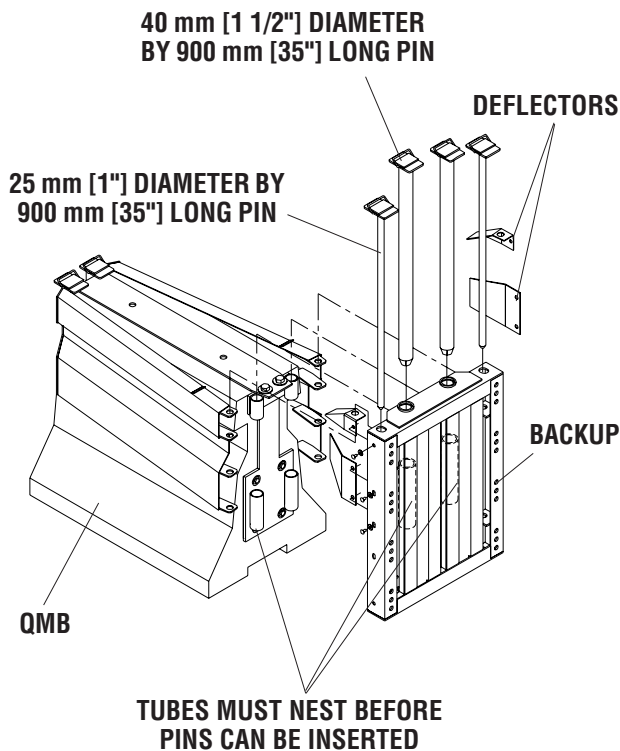
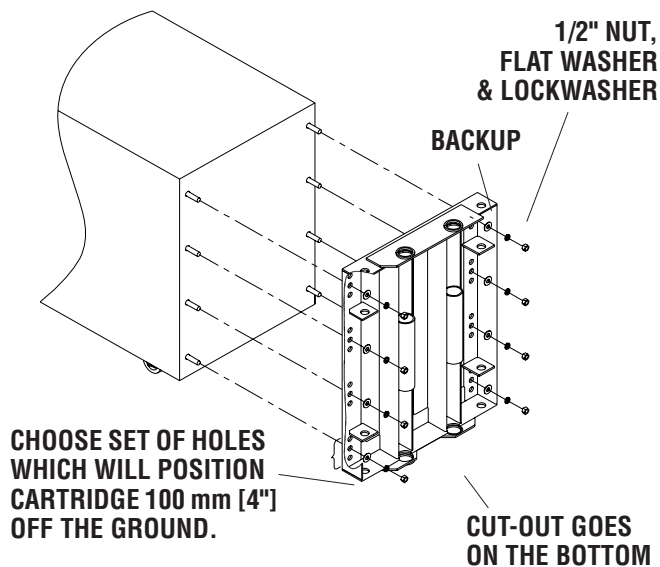

Figure 15
Figure 19
Step 5: Attach Backup to Support Frame and Transition Panels (See Figures 15 & 16)
Step 8: Attach Backup to Cartridge. (See Figure 19)
Roll the Cartridge with the attached Backup up against the Support Frame until the tubes on the Backup nest with the tubes on the Support Frame. It may be necessary to lift the rear end of the Cartridge so that the tubes can nest. Re-insert the two large 40 mm [1 1/2"] diameter by 900 mm [35"] long pins into the two sets of nested tubes to hold the Cartridge into place. To get the pins to fall into place, it may be necessary to align the tubes on the Backup and Support Frame. This can be easily done by carefully lifting the front end of the N-E-A-T Cartridge with a pry bar. (Be careful not to damage the Cartridge when doing so--protect the Cartridge with a piece of scrap lumber.) Next, re-insert the 25 mm [1"] diameter by 900 mm [35"] long pins into the holes on the outside of the Backup to fix the Transition Panels into place. See Figure 19. (Ref. Figure 15)